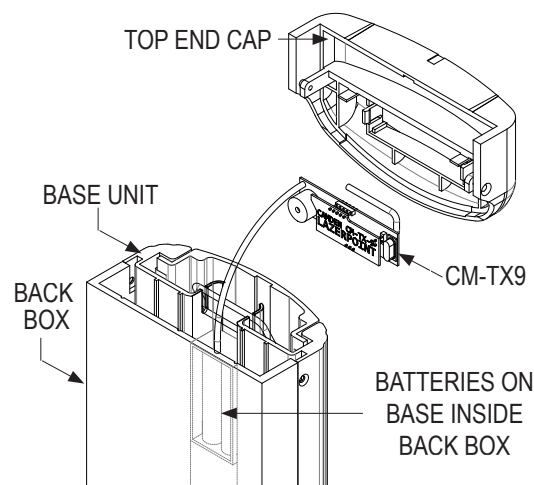

Figure 4.6 Transmitter Assembly
### IF USING LAZERPOINT™ RF: (Figure 4.6)
4. Slide the battery and the extra wiring into the center (rear) channel provided. Do not slide all of the wire into the channel so that the cap can hang off to one side while you perform the next step. (Figure 4.6)